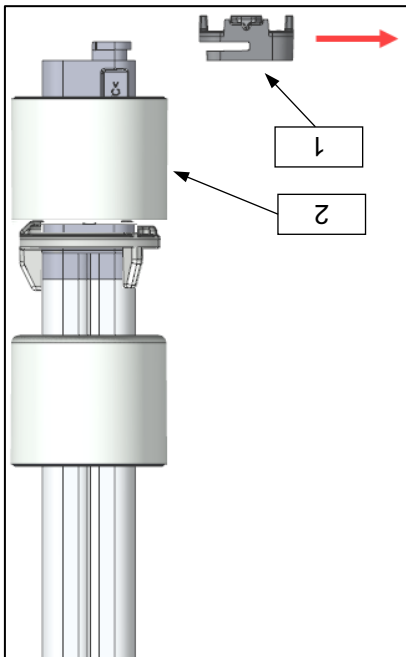

Figure 8
The respective switching function selected can be identified by the colour marking of the float (Figure 8, item 2):
By turning the float (Figure 8, item 2) through 180°, the switching function normally open to normally closed or normally open to normally closed can be subsequently inverted. Only the switching function normally open or normally closed can be inverted.
▪ Only the float at the empty signal switching point (S1) can be turned. This function is not possible with the float (Figure 8, item 2) of the pre-empty switching point (S2).